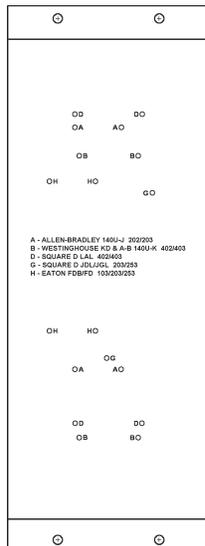

Figure 3
2. Place the Square D Operator (Sq. D P/N 9422-ARR-11) on the Breaker Mounting Plate (ENTRON P/N 530026) aligning the mounting holes on the Operator with the “D” designated mounting holes on the Plate (note plate orientation in Figure 3).